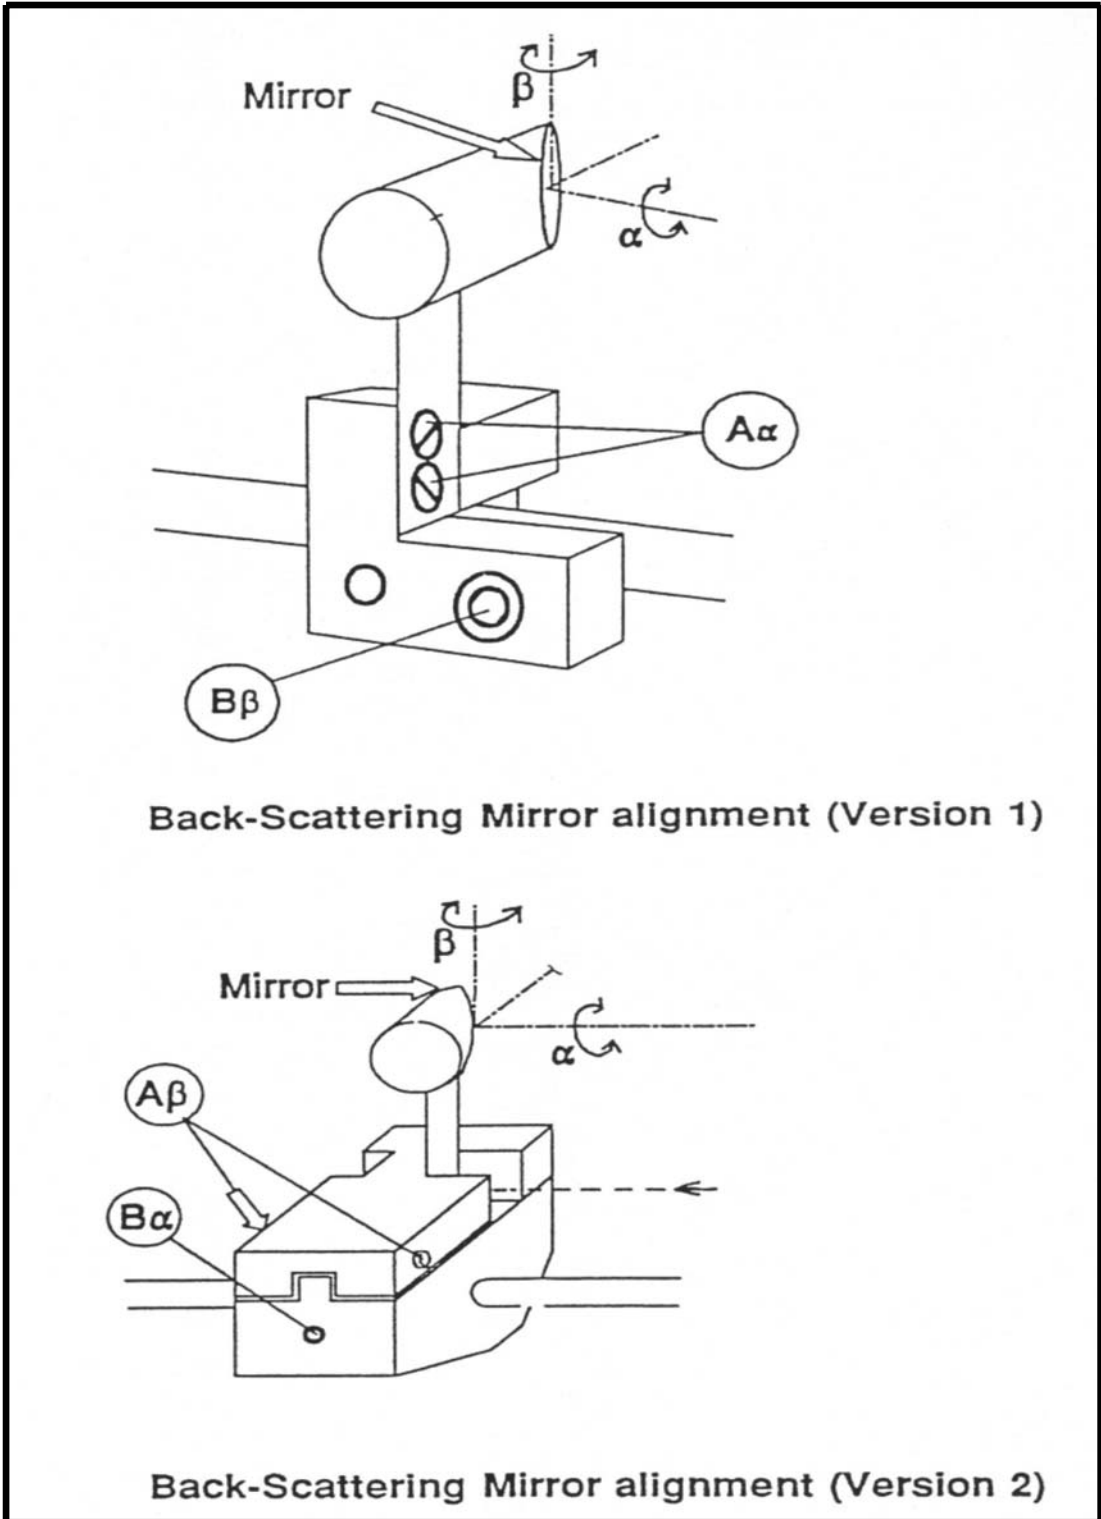

Figure 2
9. Place and center the backscattering mirror  $M_{rr}$  on the laser beam. The reflected laser beam must be superposed to the direct beam. To control this last step, place a centering piece at  $90^\circ$  on the left end side of the sliding rail, the beam passing through the centering piece. If not, adjust the backscattering mirror  $M_{rr}$  (see Figure 2)